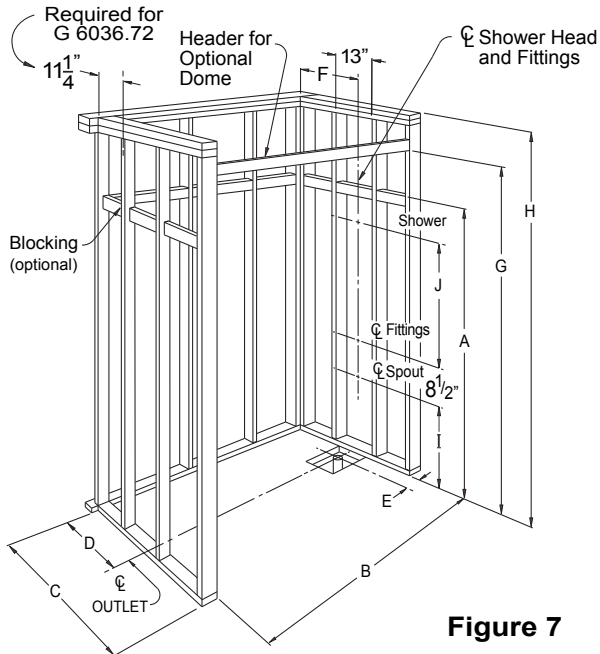

Figure 7
2. Review *Figures 7, 8, and 9* to make sure alcove is of proper size. If a fire rated alcove is required, approved finish material must be installed prior to unit installation. Access to drain and supply connections should be provided so that these connections may be made after the unit has been installed. Framing alcove must reflect interior dimensions on diagram to permit installation of unit. Note in diagram the required opening in the floor to provide clearance for the drain fitting and connection.